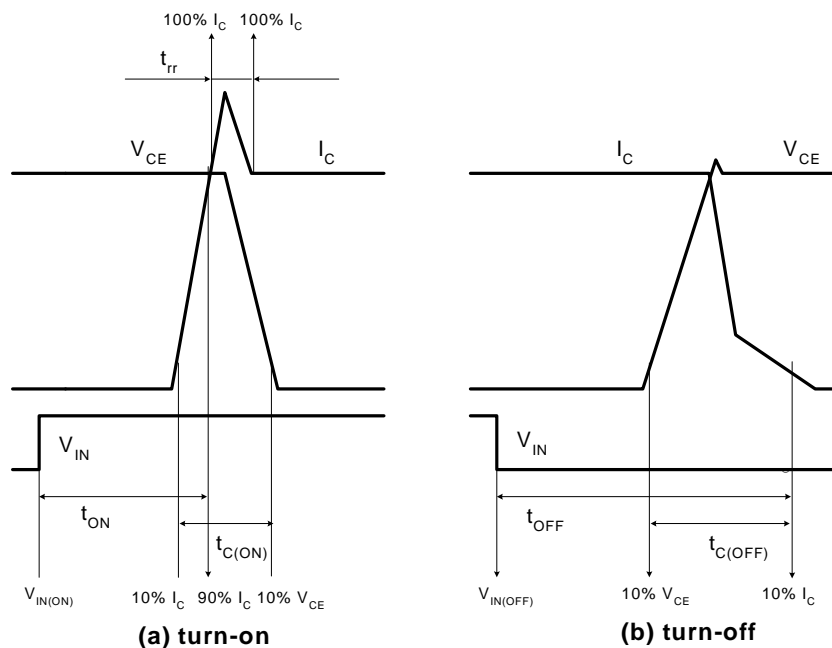

Figure 4. Switching Time Definition
- t_{ON} and t_{OFF} include the propagation delay of the internal drive IC. $t_{C(ON)}$ and $t_{C(OFF)}$ are the switching time of IGBT itself under the given gate driving condition internally. For the detailed information, please see Figure 4.